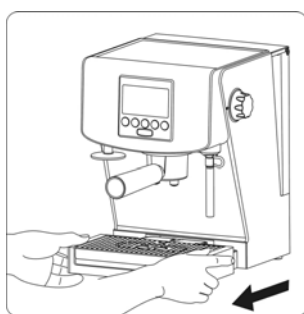

Fig. 12
- 18.4. Place the espresso machine upside-down and undo the grid from the filter head (4) by means of an appropriate screwdriver (Fig. 12).